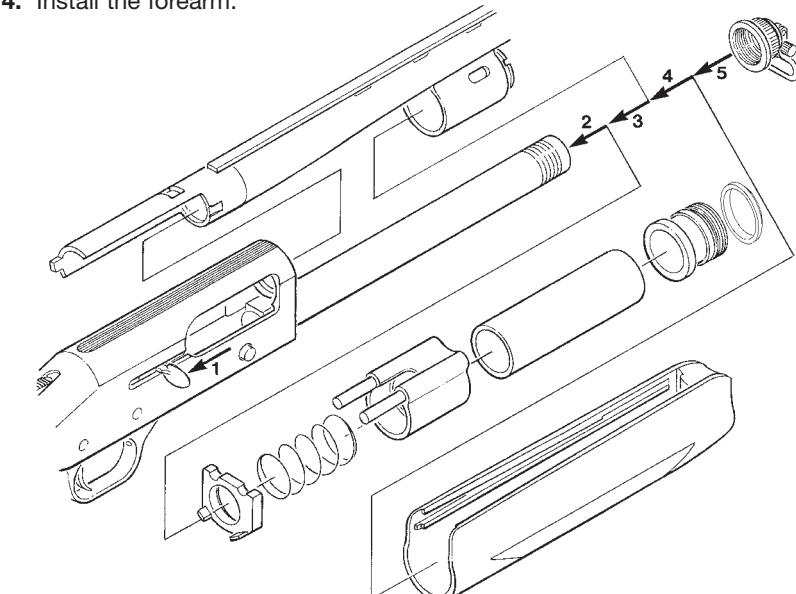

Figure 15
1. Grasp the operating handle and lock the action in the "OPEN" position (Figure 15).
When interchanging barrels (combo models) or reinstalling the original barrel onto the firearm, YOU MUST ensure that the gas piston and seal ring* are present on the magazine tube prior to installing the barrel (see Figure 15). If the gas piston and seal ring* are not present on the magazine tube, remove them from the gas cylinder portion of the barrel that was on the firearm previously and place them onto the magazine tube as shown in Figure 15. Failure to do so may result in a dangerous malfunction, damage to the firearm and injury to the shooter and other persons. The firearm's owner must accept full responsibility for the correct reassembly and functioning of the firearm after any disassembly or replacement of parts.